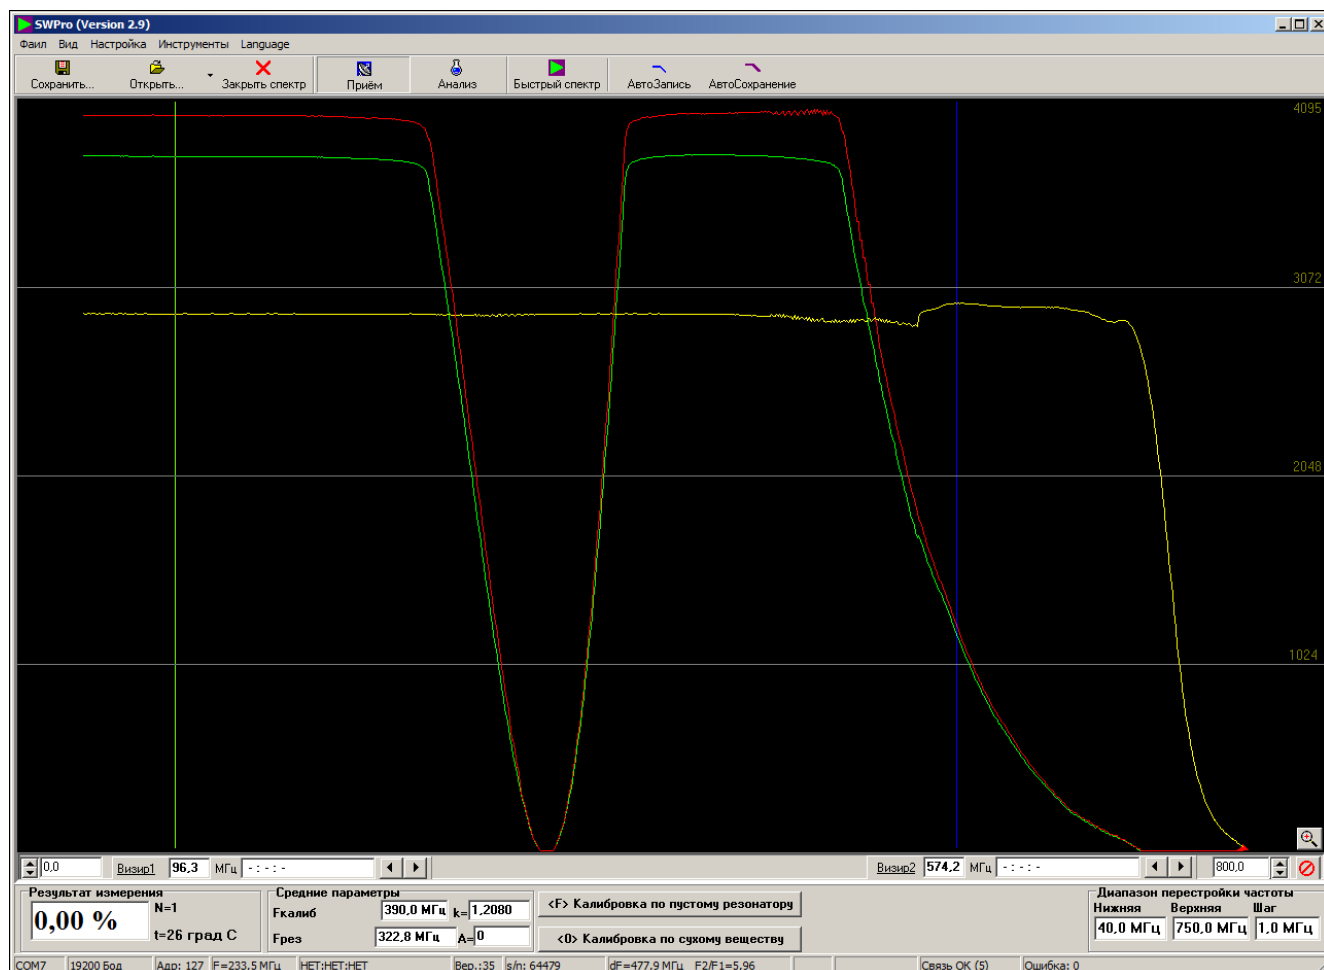

Fig. 1
The program's main window (see Fig. 1) can be divided into three sections. The top section contains the menu and quick-access buttons for controlling the moisture meter and software. The middle section is a field for plotting (displaying) signal graphs (spectra). The lower section displays communication parameters, the measurement data received from the moisture meter, and the main moisture meter settings.
In the main program window, the program icon, the name (program identifier) "SWPro" and the software version number are displayed in the upper left corner (see Fig. 1).
1) $U(f_1) \leq U(f_2)$. This condition means that only the df interval for which the graph point corresponding to the right end of the interval is higher than or equal to the point corresponding to the left end is taken into account for analysis (see Figure 1).